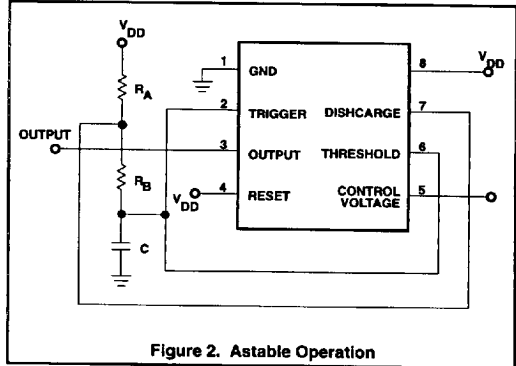

Figure 2. Astable Operation
- Astable timing is calculated using the following equation: $f = \frac{1.38}{(R_A + 2R_B)C}$. The components are defined in Figure 2.
Although the supply current consumed by the ICM7555 device is very low, the total system supply can be high unless the timing components are high impedance. Therefore, high values for R and low values for C in Figures 2 and 3 are recommended.
If the circuit is connected as shown in Figure 2, it will trigger itself and free run as a multivibrator. The external capacitor charges through R_A and R_B and discharges through R_B only. Thus, the duty cycle (D) may be precisely set by the ratio of these two resistors. In this mode of operation, the capacitor charges and discharges between $1/3 V_{DD}$ and $2/3 V_{DD}$. Since the charge rate and the threshold levels are directly proportional to the supply voltage, the frequency of oscillation is independent of the supply voltage.